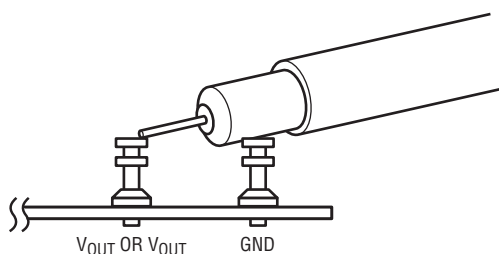

Figure 2. Proper Scope Probe Placement for Measuring Input or Output Ripple
**Note:** When measuring the input or output voltage ripples, care must be taken to avoid a long ground lead on the oscilloscope probe. Measure the input or output voltage ripple by touching the probe tip directly across the  $V_{IN}$  or  $V_{OUT}$  capacitor terminals. See Figure 2 for proper scope probe technique.